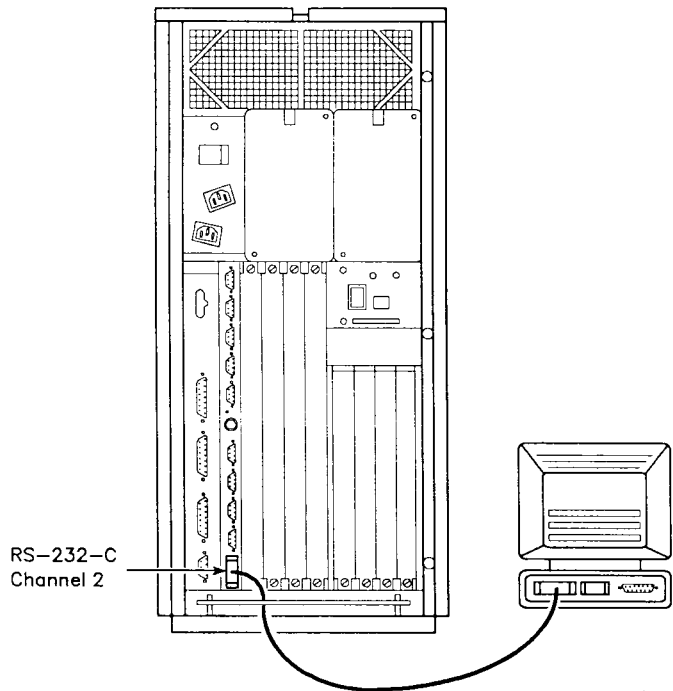

Figure 3-2. Connecting a Terminal to an RS-232-C Expansion Board
2. Insert the 9-pin connector end of the RS-232-C cable into a connector on the Expansion board (see Figure 3-2).